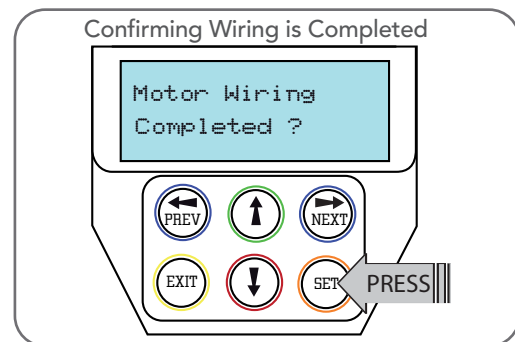

Fig 8.2
- DCB-05V2 will prompt you to confirm that the motor wiring is complete (**Fig. 8.2**) and that the gate(s) are at fully open position and engaged.